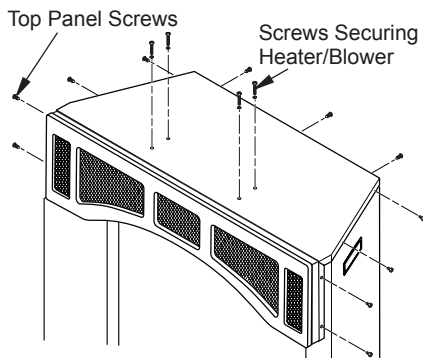

Figure 12 - Removing Top Panel and Heater/Blower
2. Remove screws from around top panel of firebox (see Figure 12).
5. Remove screws holding heater/blower to top panel (see Figure 12).